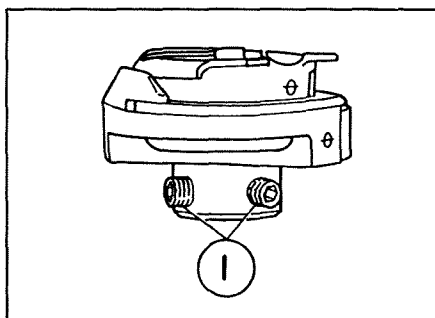

Fig. 24
- (c) Loosen 2 hexagon socket head screws (① of Fig.24), which fix a sewing hook to its driving shaft, by using a hexagonal spanner stored in the accessory box.